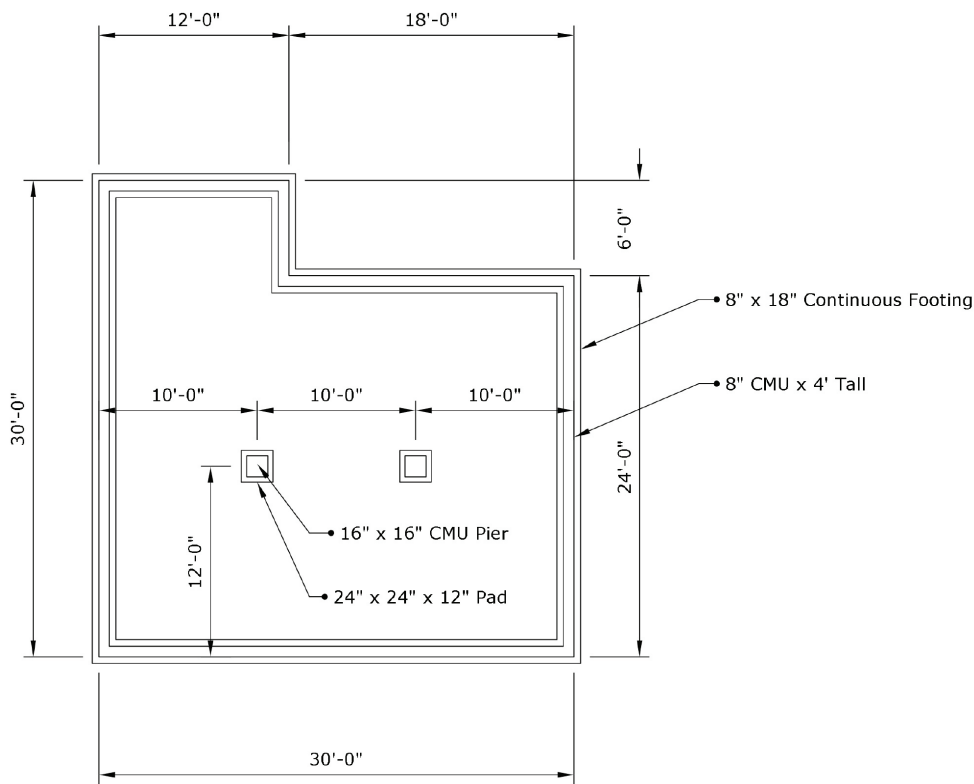
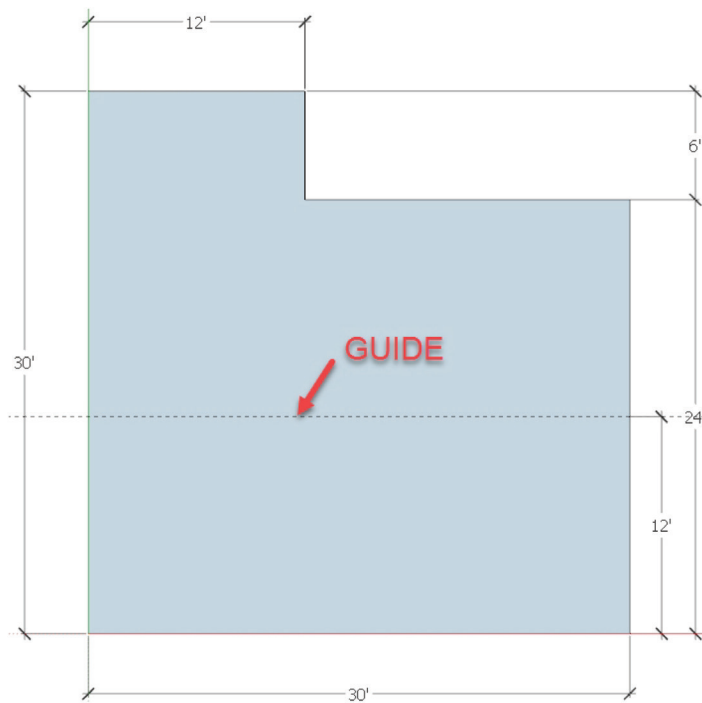

Figure 10.16 Typical Crawl Space Plan.
Figure 10.18 Centerline Guide.
To get started, take a look at a typical crawlspace design, as shown in Figure 10.16.
1. Press L for line and trace the perimeter of the foundation, as seen in Figure 10.16, using the provided dimensions (yes, you could create two rectangles and then erase the line between them, but for this lesson, create a closed polygon to create a face representing the building outline). Start by clicking on the axis origin point. Move your cursor in the green axis to the right/up (clockwise around the building), type 30' in the measurements box, and hit enter.
12' pier centerline from the drawing in Figure 10.16. As you move your mouse/cursor up along this edge (hover over the vertical 24' edge), you will notice a red box—once you get to the midpoint, you will see it change to a blue dot (midpoint)—click here to establish your centerline along the midpoint, as shown in Figure 10.18.